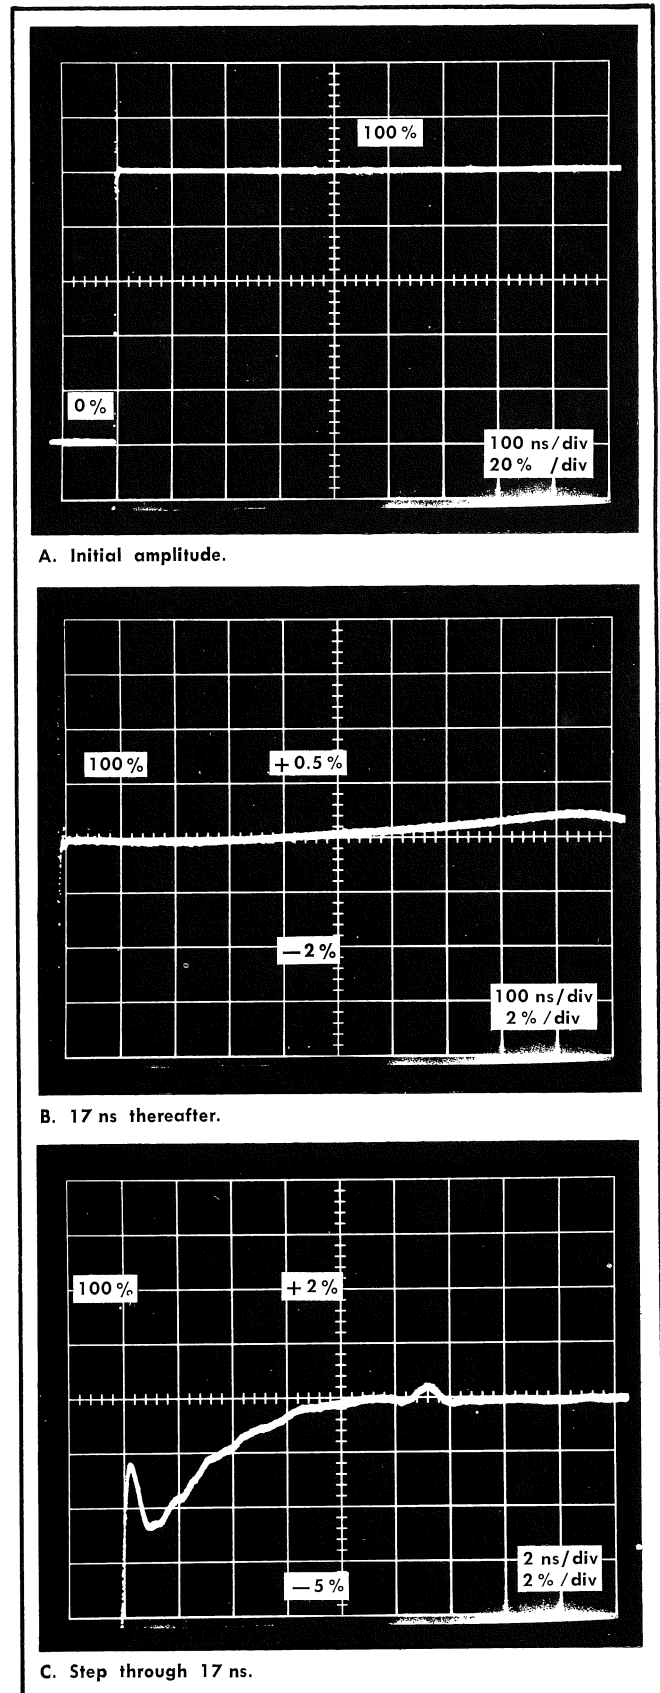

Fig. 5-12. Pulse flatness deviation measurement.
b. Use the sampling sweep unit Time Position control to place the rising portion of the pulse one division from the left edge of the graticule. Set the sampling unit Variable Units/Div control for 5 divisions between the 0% amplitude and the 100% amplitude level, as in Fig. 5-12, for a display amplitude of 20% per division.